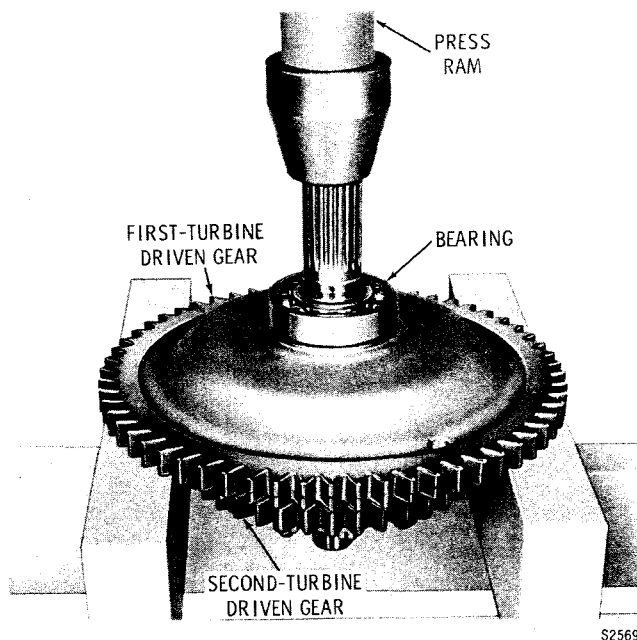

Fig. 6-9. Pressing second-turbine driven gear assembly from freewheel clutch assembly
(1) Press the second-turbine driven gear out of the assembled unit (fig. 6-9). This will free spacers 29 and 31 (foldout 8,A) and bearing 32 which may be removed. Remove fifteen rollers 9 or 23, also freed.
(2) Remove bearing 30 from gear 28. Remove twelve nuts 2 or 16 from bolts 14 or 27.
(3) Using a screwdriver, pry cam assembly 10 or 24 away from gear 3 or 17. Remove spring plate 5 or 19 and roller cage 8 or